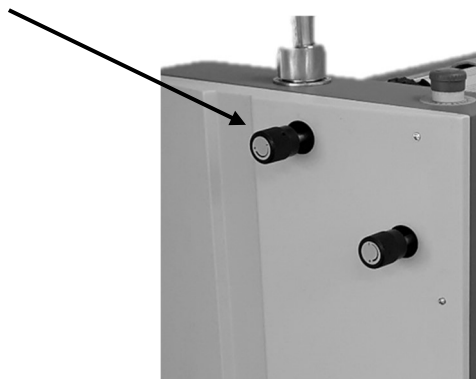

Fig. 16a
1. Adjust top liner rewind shaft clutch by turning the Clutch Adjustment Knob on the right-side cabinet, Fig 16a.